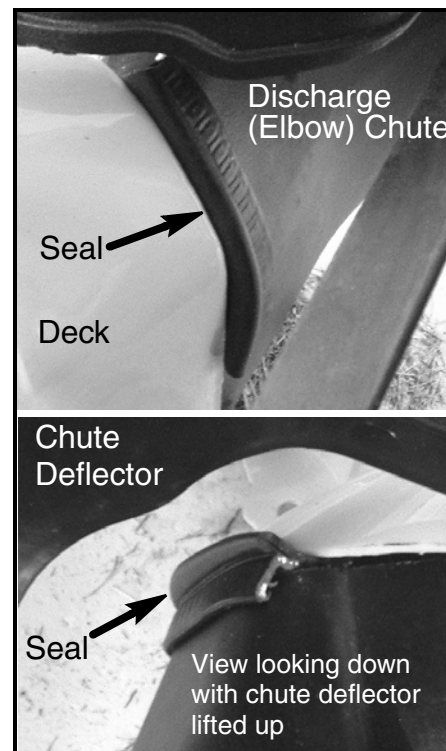

FIGURE 6
13. Re-install the discharge (elbow) chute and check to ensure that the seal fills the area marked. See Figure 6.